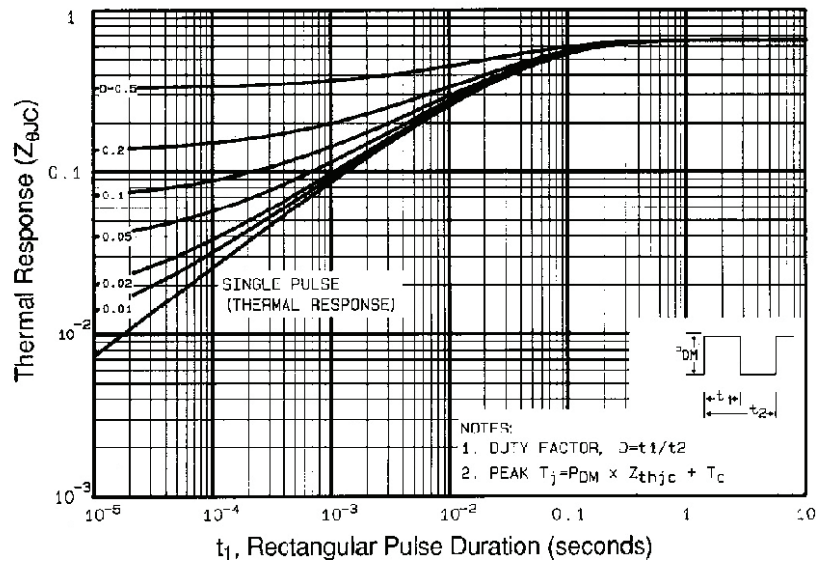

Fig. 12 - Maximum Effective Transient Thermal Impedance, Junction-to-Case
- $V_{DD} = 50$  V, starting  $T_J = 25^\circ\text{C}$ ,  $L = 13$  mH,  $R_g = 25 \Omega$ ,  $I_{AS} = 11$  A (see fig. 12)